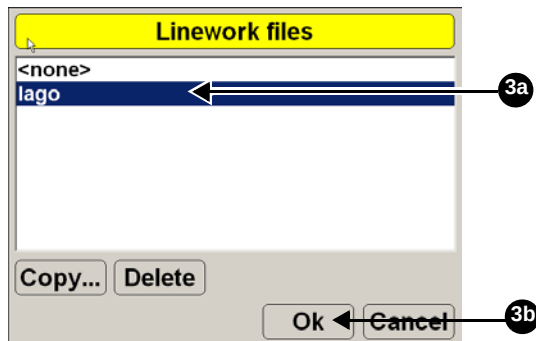

Figure 3-14. Applying a Linework File
3. Select the file for the jobsite and press **Ok** (Figure 3-14).